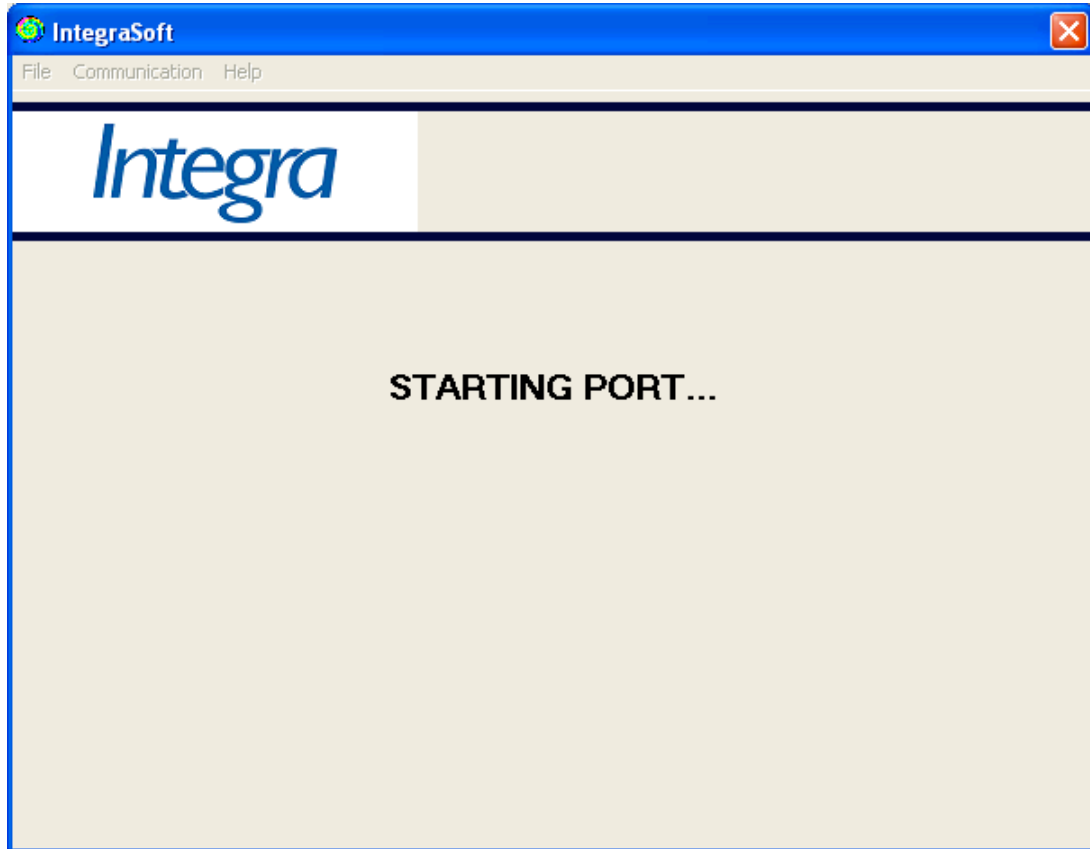

Figure 7: Starting Port... message in IntegraSoft window
4. In the IntegraSoft main window, click "Communication" and select "Open Port" from the drop-down menu. The window will display the message "Starting Port..." (see Figure 7)